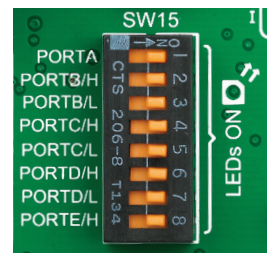

Figure 6-6: SW15.1 through SW15.8 switches are used to enable PORT LEDs
LED (Light-Emitting Diode) is a highly efficient electronic light source. When connecting LEDs, it is necessary to place a current limiting resistor in series so that LEDs are provided with the current value specified by the manufacturer. The current varies from 0.2mA to 20mA, depending on the type of the LED and the manufacturer. The EasyMx PRO™ v7 for STM32 board uses low-current LEDs with typical current consumption of 0.2mA or 0.3mA. Board contains 67 LEDs which can be used for visual indication of the logic state on PORT pins. An active LED indicates that a logic high (1) is present on the pin. In order to enable PORT LEDs, it is necessary to enable the corresponding DIP switch on **SW15** (**Figure 6-6**).